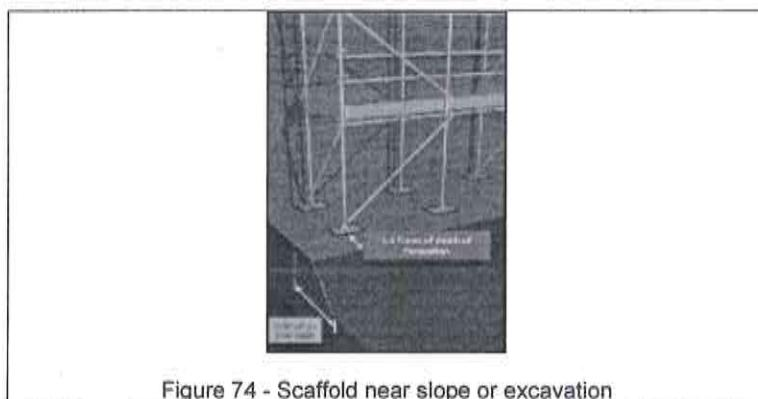

Figure 74 - Scaffold near slope or excavation
- h) Screw jack shall be used to compensate the ground variations. Such screw jack shall not be extended 2/3 of its total threaded length. (As shown in figure 74)